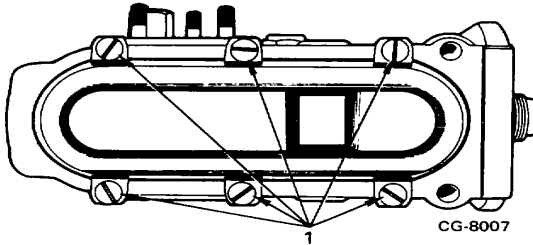

Figure 21. Removing Bottom Cover
18. Remove bottom cover (Figure 21).